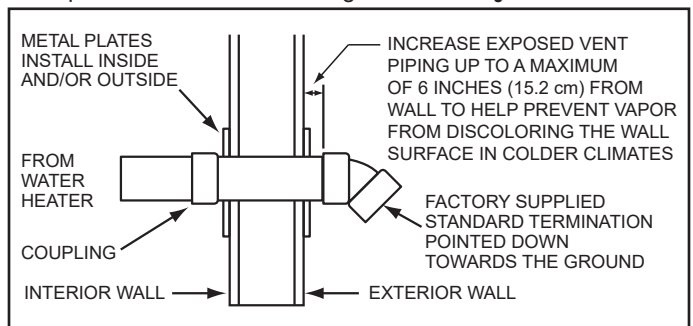

Figure 39. Sidewall Termination Installation
12. Working from outside, slide the pipe and termination(s) assembled in the above steps through the wall. Ensure that the termination(s) is pointed down towards the ground. See **Figure 39**.
16. Install a coupling to the end of the pipe(s) inside the building. Before the silicone caulking has time to completely set, go outside the building and ensure that the termination(s) is still pointing down towards the ground. See **Figure 39**.